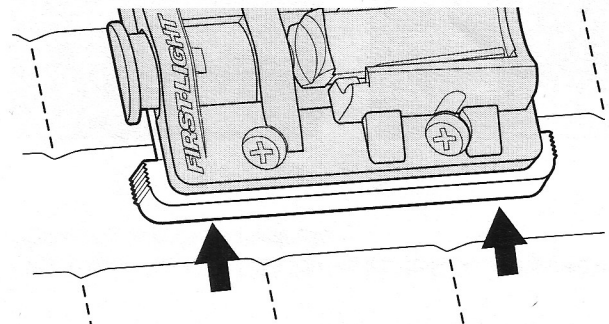

Figure 5
- Insert mounting blades into the slide lock and snap into place (Figure 5). Ensure all three blades are secure and captured by the slide lock.